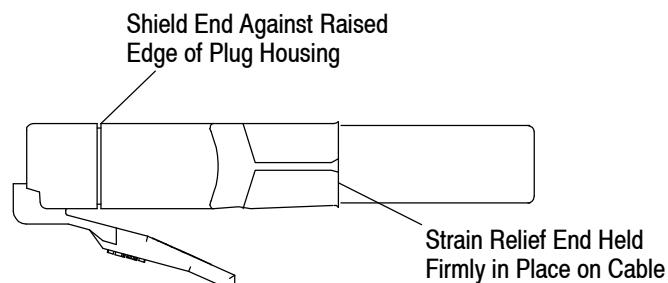

Figure 8
Refer to Section 5, TOOLING, for appropriate crimp tooling and machines that are compatible with this connector. Refer to Figures 8 and 9 and proceed as follows:
3. The shield end must be against the raised edge of the housing. The strain relief end must be held firmly in place on the cable. The crimp height must be within the dimension provided in Figure 8.